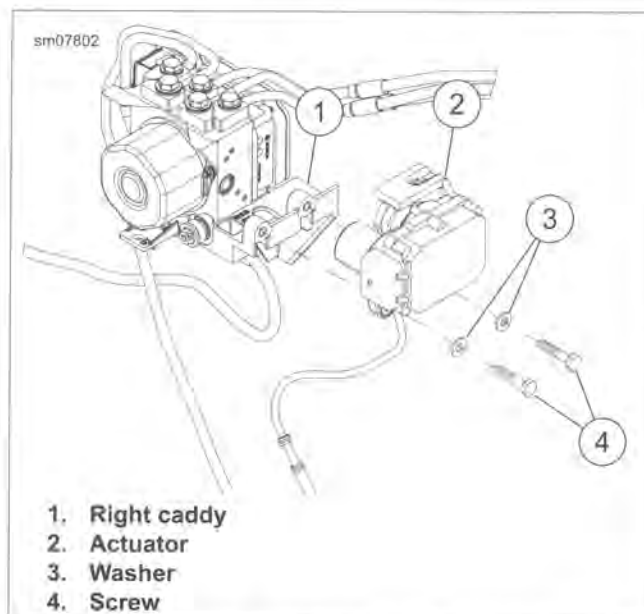

Figure 4-43. Active Exhaust Actuator
4. See Figure 4-43, Remove two screws (4) and washers (3) to release active exhaust valve actuator (2) from right side caddy (1).